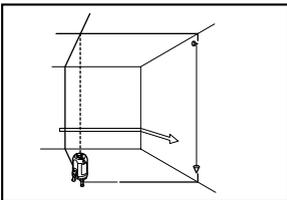

Fig. 9
- 1) Hang a plumb-bob (See the Fig. 9) from 3 m height of the wall (the height of ceiling is approx. 3 m). Place the unit on the floor at the point of 2 to 5 m away from the wall. Make sure that the air-bubble is centered in the round vial (4).